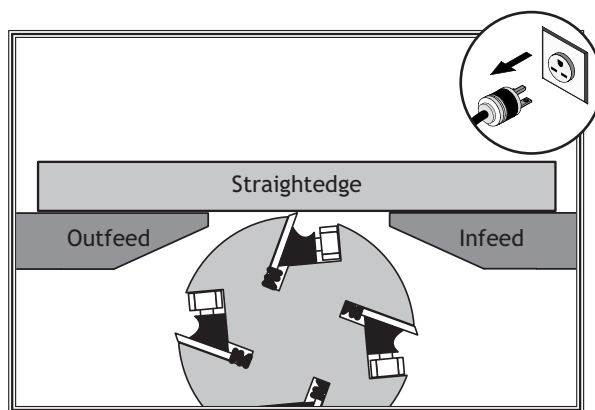

Figure 54. Infeed table even with outfeed table.
3. Use the straightedge to help adjust the infeed table exactly even with the outfeed table, as shown in **Figure 54**.